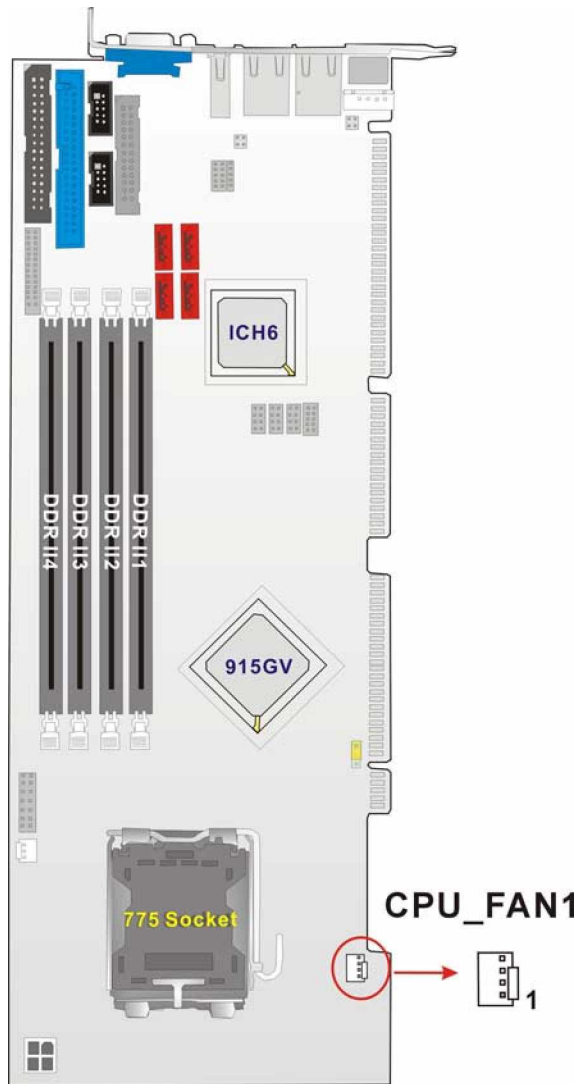

Figure 3-8: Cooling Fan Connector Locations
- CN Location:** See Figure 3-8